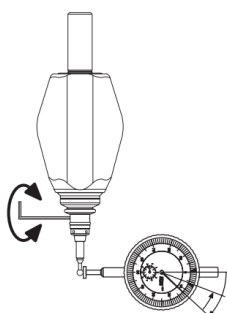

Figure 3
- Turn spindle with 3D tester by 180°, and the dial gage shows the deviation of X axis (Figure 3, as shown in the figure, the indicator reading is 0.12mm).